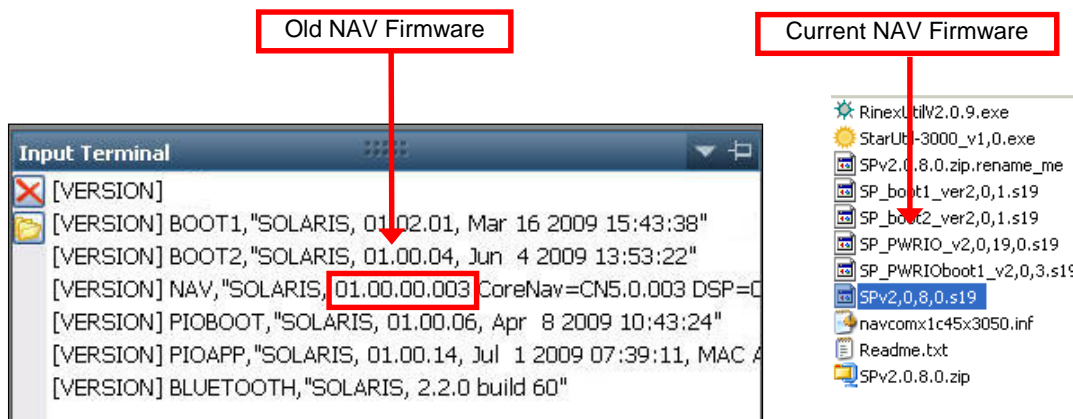

Figure 63: Comparing Current & Installed Firmware
7. Compare the current NAV Firmware version in the Firmware folder with the installed version displayed in the *Input Terminal* window (see Figure 63).